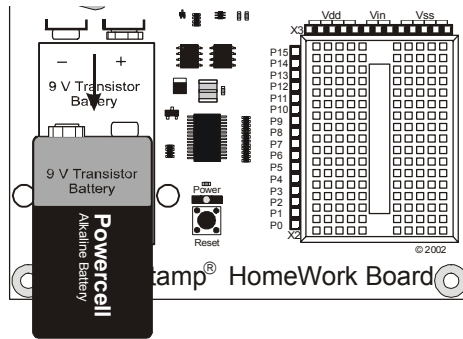

Figure 1-51
- √ If you are using the BASIC Stamp HomeWork Board, disconnect the battery as shown in Figure 1-51.